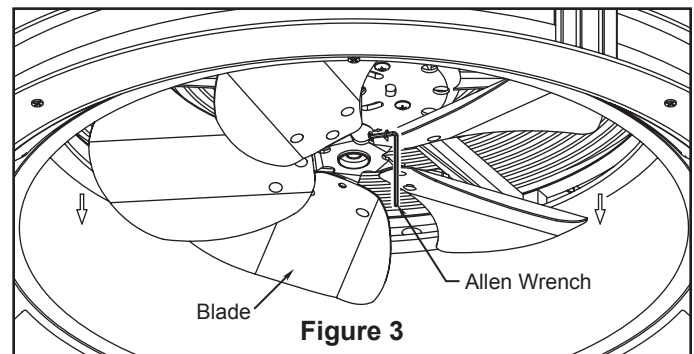

Figure 3
- ☐ 2. Carefully remove the screws and blade by allen wrench and retain the screws. After cleaning and reinstalling the blade using the removed screws. (Figure 3)